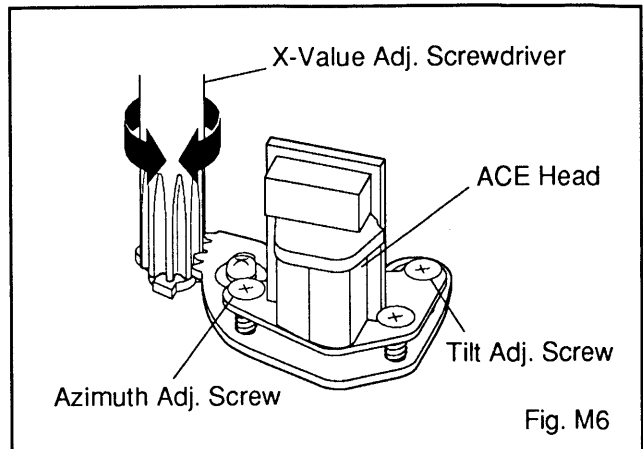

Fig. M6
4. If creasing or snaking is apparent, adjust the Tilt Adj. Screw of the ACE Head. (Fig. M6)
4. Use the X-Value Adj. Screwdriver so that the PB FM signal at TP (C-PB) or TP of AUDIO OUT is maximum. (Fig.M6)
3. Adjust Azimuth Adj. Screw so that the output level on the AC Voltmeter or the waveform of the oscilloscope is at maximum. (Fig. M6)